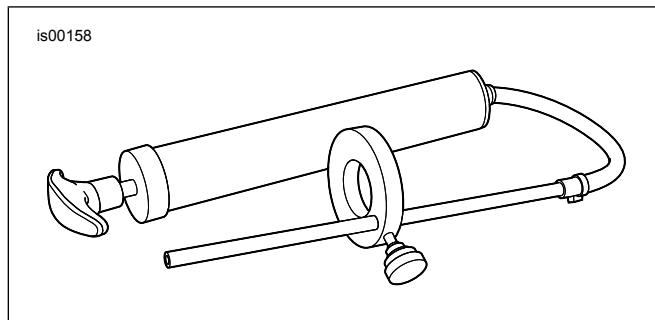

Figure 4. Front Fork Oil Level Gauge (HD-59000B)
- a. See Figure 4. Obtain the FRONT FORK OIL LEVEL GAUGE (Part Number HD-59000B).